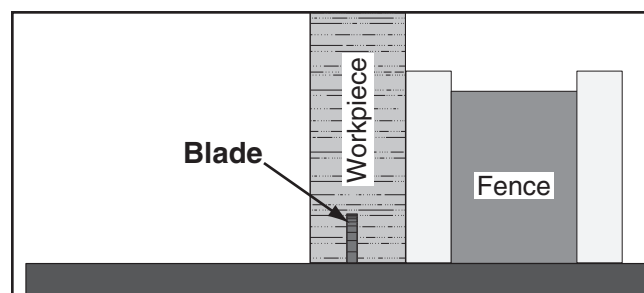

Figure 121. First rabbet cut.
4. Stand workpiece on edge, as shown in **Figure 121**, then adjust rip fence so blade is aligned with inside of rabbet channel.